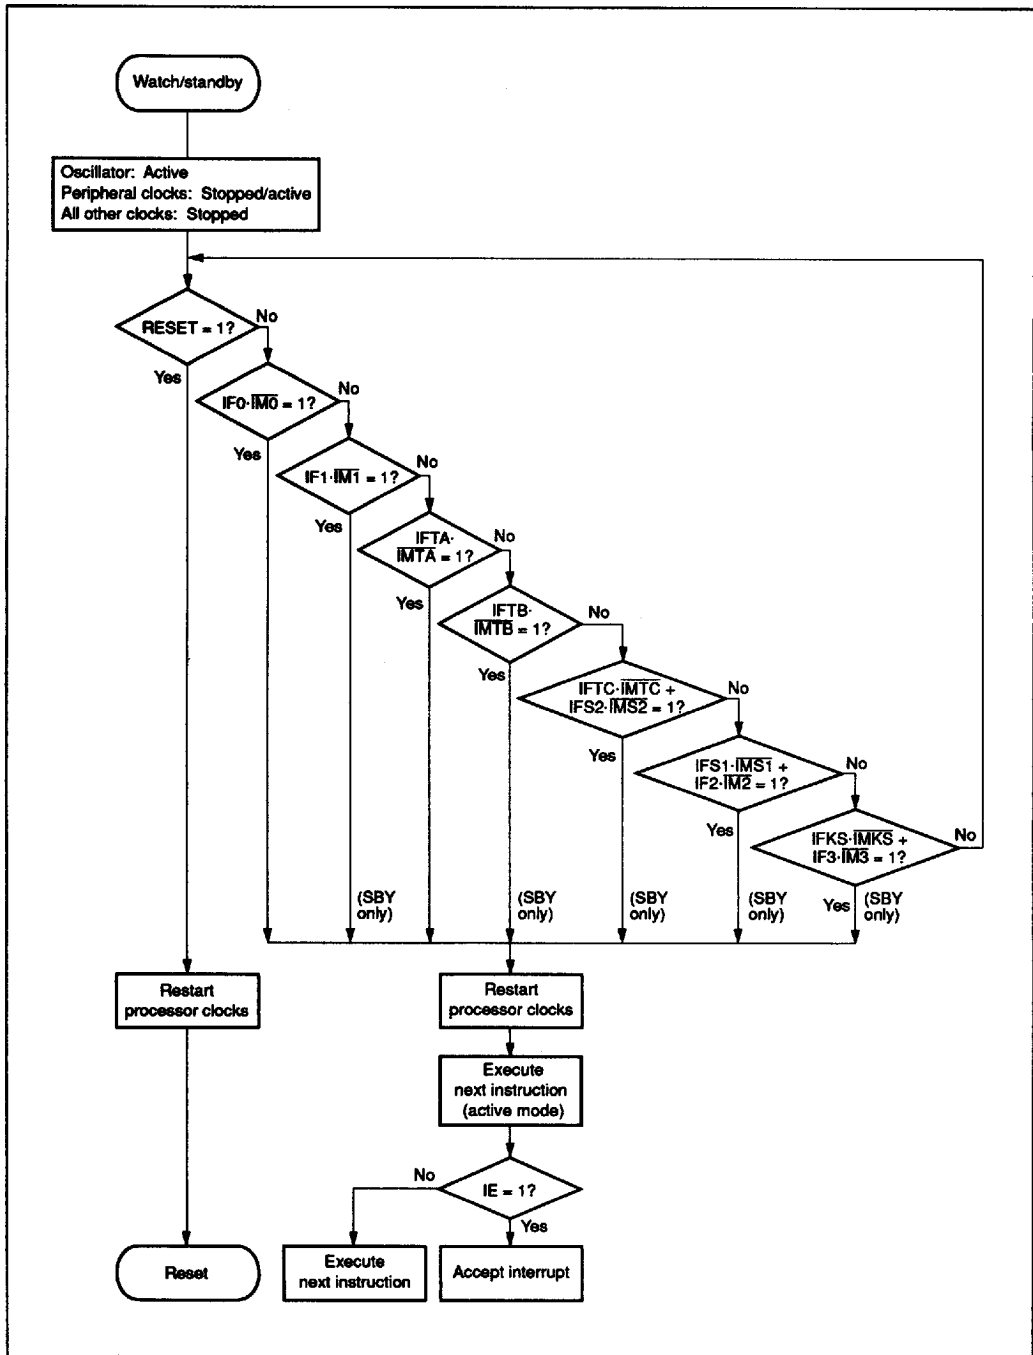
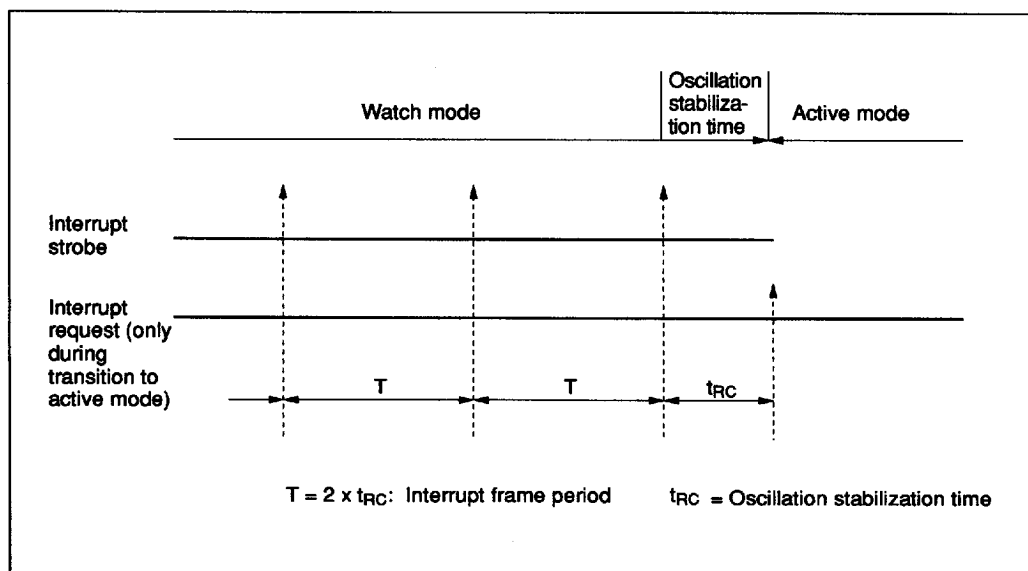

Figure 15 Flowchart of Watch and Standby Modes
Figure 17 Interrupt Frame
Standby mode may be cancelled by inputting RESET or by asserting an interrupt request. In the former case the MCU is reset. In the latter case, the MCU becomes active and executes the next instruction following the SBY instruction. If the interrupt enable flag is 1 when an interrupt request is asserted, the interrupt is executed, while if it is 0, the interrupt request is put on hold and normal instruction execution continues. A flowchart of operation in standby mode is shown in figure 15.
The watch mode is terminated by a RESET input or a timer-A/ \overline{INT}_0 interrupt request. For details of RESET input, refer to the Stop Mode section. When terminated by a timer-A/ \overline{INT}_0 interrupt request, the MCU enters active mode if LSON is 0 or subactive mode if LSON is 1. Any interrupt request generated for the transition to active mode is delayed for half the interrupt frame period (t_{RC}) to give the oscillation time to stabilize (figure 17). Operation during mode transition is the same as that at standby mode cancellation (figure 15).
Interrupt Frame: In watch and subactive modes, ϕ_{CLK} is supplied for timer A and the \overline{INT}_0 circuit. Prescaler W and timer A operate as time bases to generate interrupt frame timing. Three interrupt frame cycles (T) can be selected by the settings of miscellaneous register 1, as shown in figures 17 and 18.